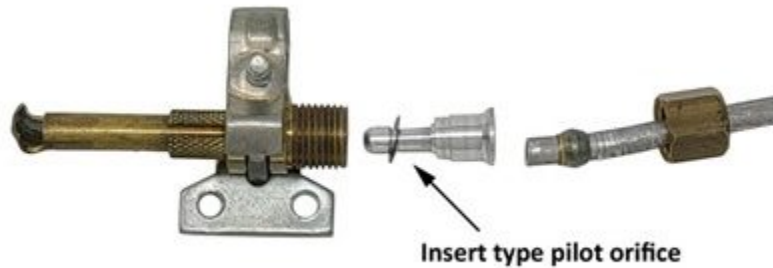

Figure 7 Insert type pilot orifice
- Figure 7 “Upshot mono-port burner” by Camosun College is licensed under a CC BY 4.0 licence (<https://creativecommons.org/licenses/by/4.0/>).
The insert type of pilot orifice has no threaded seat or gas connection. It is an aluminum cone shaped insert that sits in a receptacle on the burner assembly (Figure 7). It gets held in place and sealed by the pilot tubing inlet fitting.